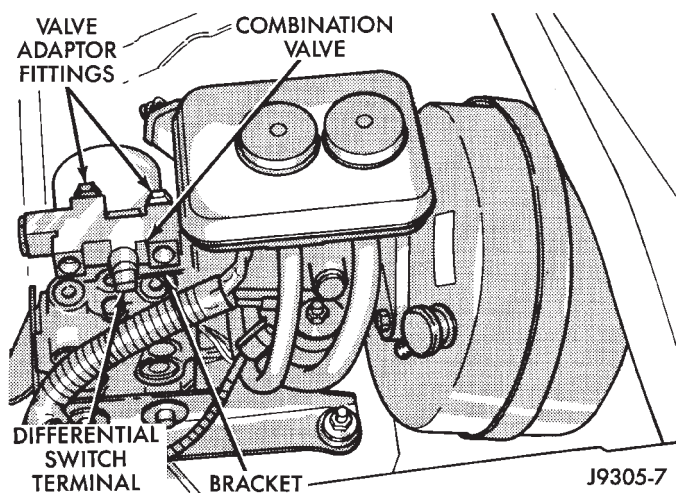

Fig. 10 Combination Valve Mounting
- (1) Disconnect battery negative cable.
(2) Remove air induction tube for access to valve, if necessary.
(3) Unsnap wire harness from bracket at top of combination valve. Then disconnect wire connectors.
(4) Disconnect pedal travel sensor harness connector and move harness wires aside for working access if necessary.
(5) Disconnect pressure differential switch wires at terminal on valve (Fig. 10).
(6) Disconnect hydraulic lines at valve.
(7) Remove bolt attaching valve bracket to master cylinder and remove valve.